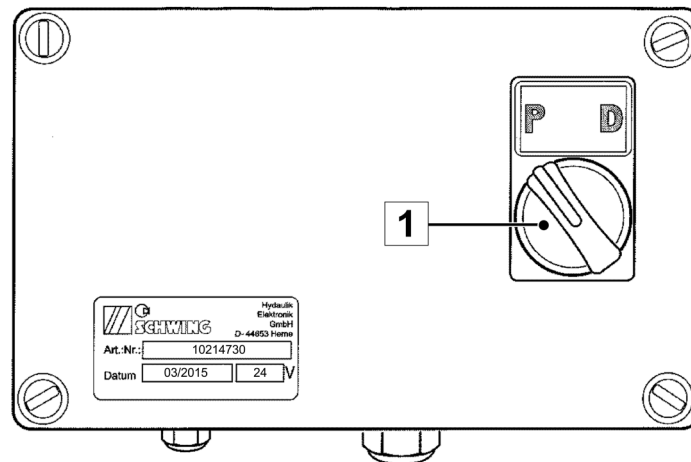

Fig. 117 E-box
- Then set the switch (1) on the e-box (**Fig. 117**) from position "D" for "Drive" to "P" for "Pump".